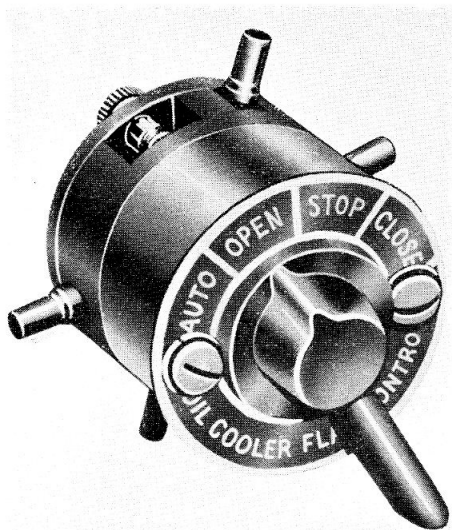

Fig. 1. Switch, A.E.I. type TD form 8
1. The TD Form 8 switch shown in fig. 1 is a single pole, four position switch designed for use in 28V d.c. aircraft electrical circuits. The switch is suitable for panel mounting and is manually controlled by a knob moulding protruding from the switch body.